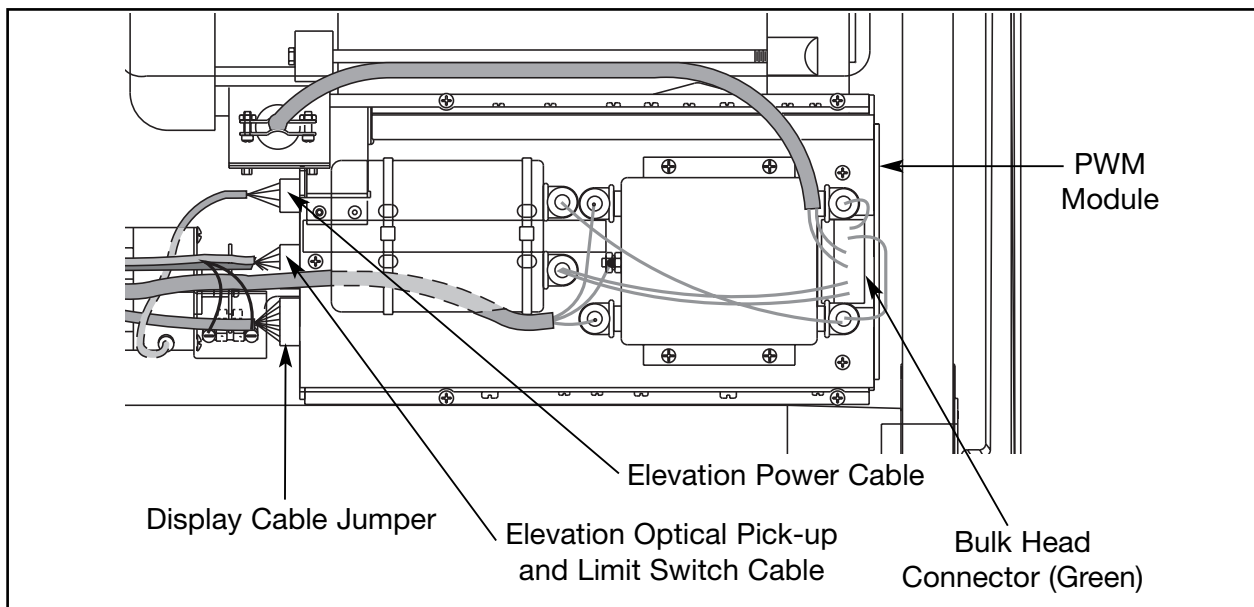

Figure 17
- A. Turn the main power switch in the front panel to the off (O) position.
- A. Unplug the four connectors from the PWM module; elevation optical pick-up cable, display cable jumper, elevation power cable and the bulk head connector. See Figure 17.
- A. Connect all five cables into the display board; the display cable, the CSAFE cable, the ribbon cable, the contact heart rate cable and the ground terminal. See Figure 17.